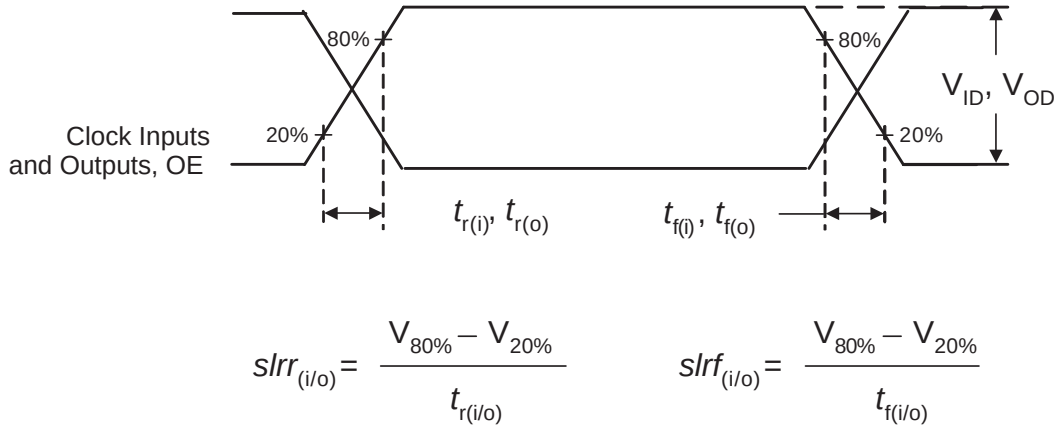

Figure 9. Input and Output Slew Rates
2. V_{ID} is the magnitude of the difference between the input level on CK and the input level on $\overline{CK}$, see Figure 9 for definition. The CK and $\overline{CK}$ V_{IH} and V_{IL} limits define the dc low and high levels for the logic detect state.
NOTES: 1. V_{OD} is the magnitude of the difference between the true and complimentary outputs. See Figure 9 for a definition.